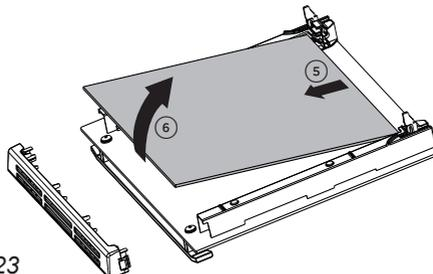

Fig. 7.23
- Gently lift and pull out the middle pane of glass by releasing it from the bottom retaining notches (fig. 7.23).